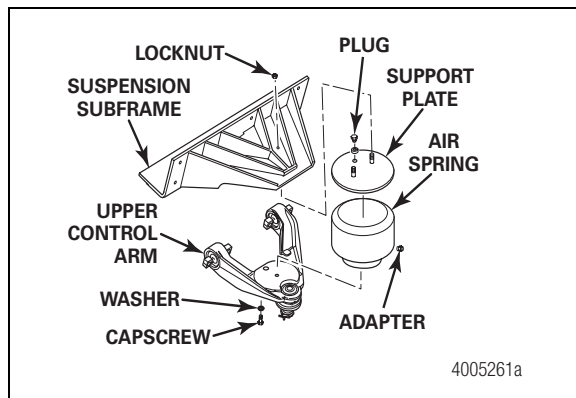

Figure 5.3
1. Disconnect the air line from the air spring. Remove the two locknuts and washers that secure the air spring to the suspension subframe. Discard the locknuts and washers. Figure 5.3.
- Support the upper control arm. Figure 5.3.